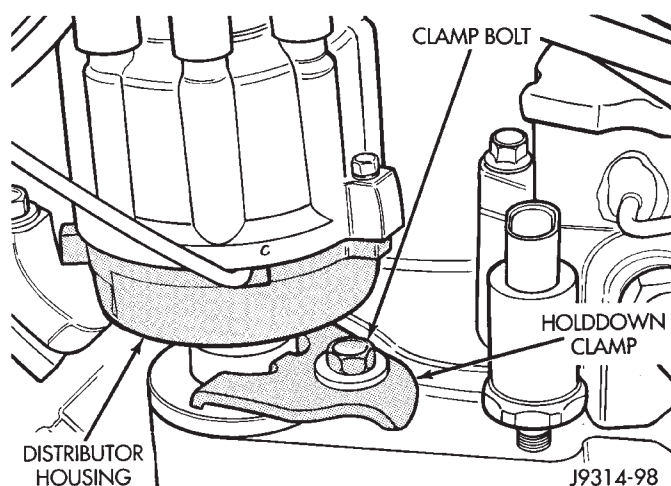

Fig. 58 Distributor Holddown Clamp
(9) Disconnect camshaft position sensor wiring harness from main engine wiring harness.
(10) Remove distributor rotor from distributor shaft.
(11) Remove distributor holddown clamp bolt and clamp (Fig. 58). Remove distributor from vehicle.
(7) Tighten clamp holddown bolt (Fig. 58) to 22.5 N·m (200 in. lbs.) torque.
(8) Connect camshaft position sensor wiring harness to main engine harness.
(9) Install distributor cap. Tighten mounting screws.
(10) Refer to the following, Checking Distributor Position.